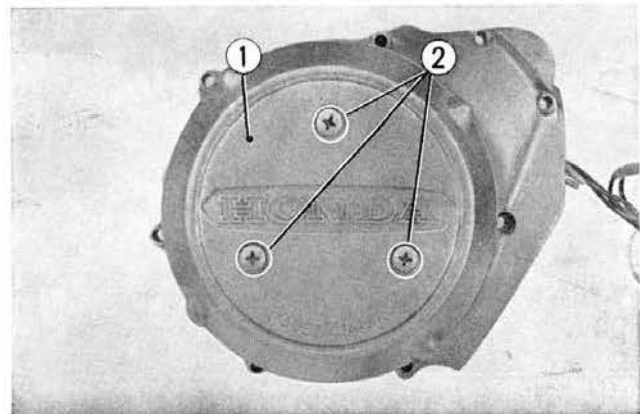

Fig. 8-7 ① Dynamo cover ② 6mm cross screws
3. Remove the field coil from the dynamo cover by unscrewing the three screws (Fig. 8-7).